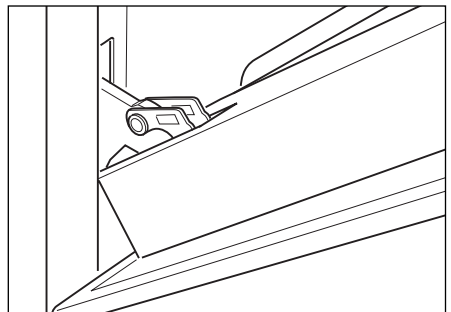

Fig.57d
- Gently close the door until left and right hinge levers "A" are hooked to part "B" of the door (Fig. 57d)